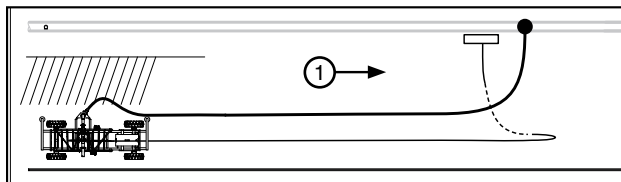

Figure 50-2 1. Direction of Travel
- (a) As the cart moves, the side inlet begins to pivot. See Figure 50-2.